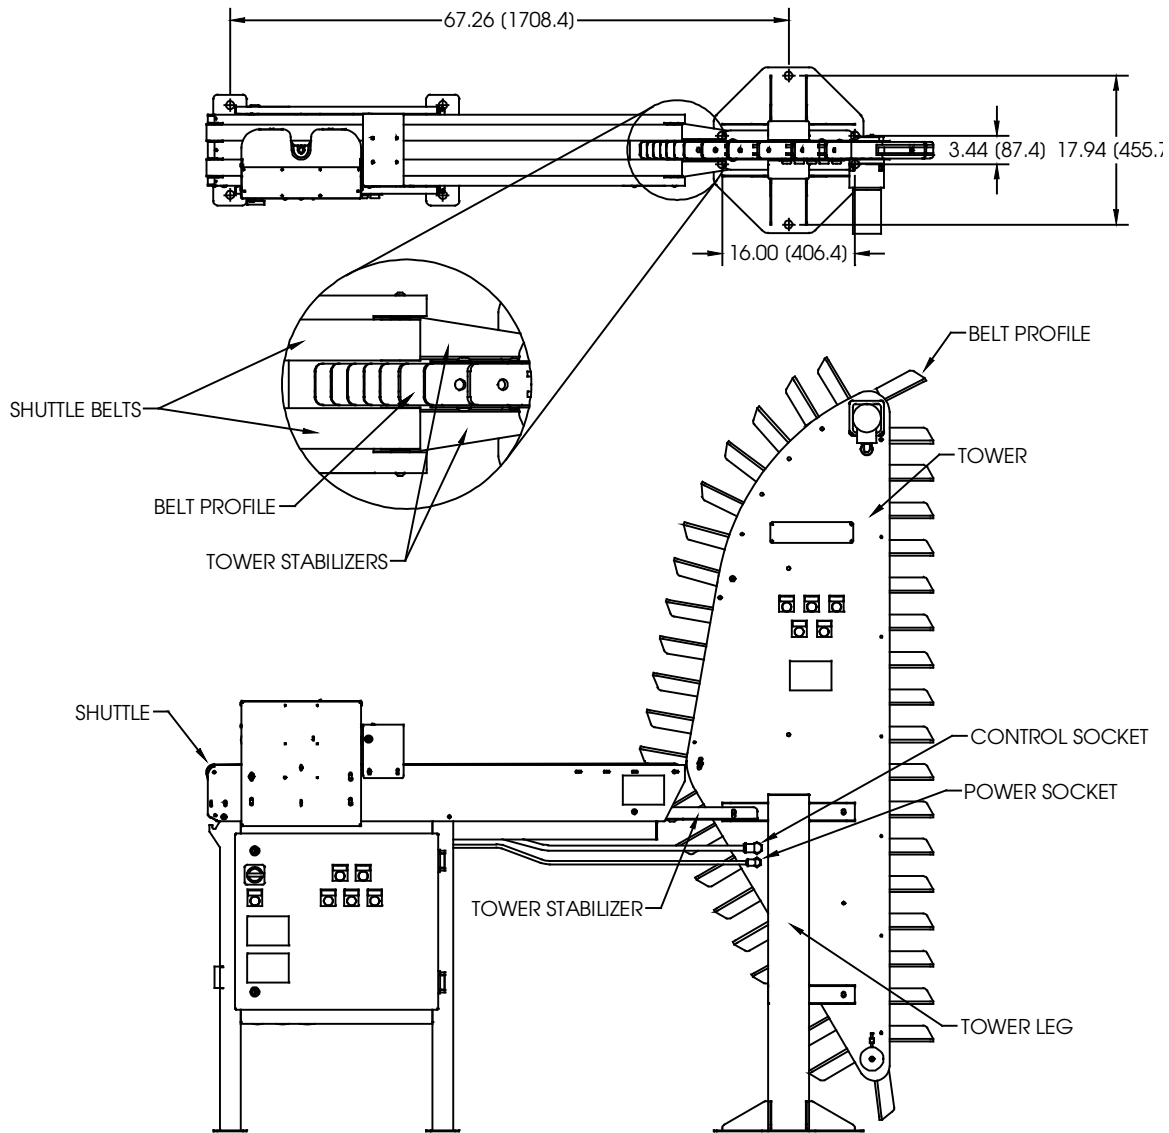

Figure 7. Stretched Disk Manager
2. Position the Tower so that the Belt Profiles are between the two Shuttle Belts as shown in Figure 7. The Tower should not contact the Shuttle Belts.
3. Use (6) six ½ inch diameter fasteners and washers. Place the fasteners through the Mounting Holes in the Tower Feet to secure the Tower. The fasteners should be lightly tightened. Make sure that the Tower is plumb. Shim under the Tower Feet if necessary.
7. Use the *Start* and *Stop* buttons located on the Tower to jog a Belt Profile into a position between the Shuttle Belts. Align the Tower so that the Belt Profiles are centered between the Shuttle Belts as shown below in Figure 7. Care should be taken not to jam the Tower Belt. If the Tower Belt does jam, press the *Stop* button and reposition the Tower.
9. Tighten the (6) six ½ inch fasteners that secure the Tower Legs.